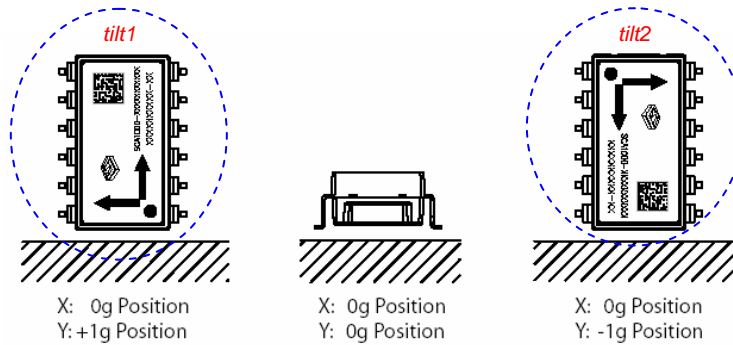

Figure 5. Measure X-and Y-channel outputs for X-channel cross-axis error compensation.
1. Measure X-channel sensitivity in Y-axis direction (figure 5 *tilt1* and *tilt2* positions).
2. Measure Y-channel sensitivity in Y-axis direction (figure 5 *tilt1* and *tilt2* positions).
All sensitivities measured above need to be in [V/g] units. The two tilt positions needed for the measurements are presented below in figure 5.